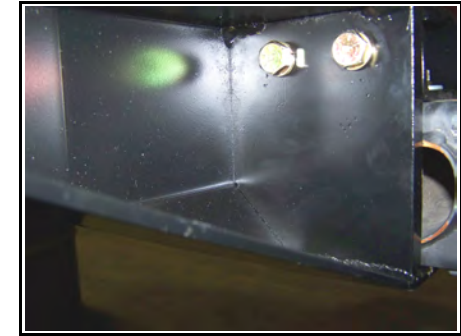

Figure 4
Step 6 - Slide front bumper over brackets. Install Four ½" Bolts, Lock Washers, And Flat Washers through 5/8" Shackle Plates and thread into weld nuts on Mounting Brackets. You may need to rock bumper back and forth slightly to start the bolts in the weld nuts. DO NOT TIGHTEN BOLTS YET. (See Figure 4)